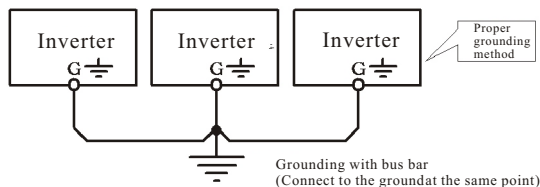

Figure 1-1
- The ground terminal must be reliably and properly grounded to ensure security. To avoid common ground impedance, multiple inverters should be grounded at one shared point, as shown in the Figure 1-1.